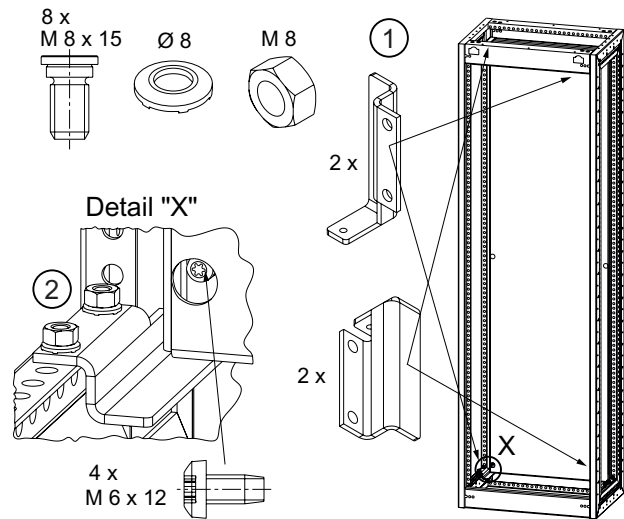

Fig. 9
- 1 Mount the 4 mounting angles to the frame with M 8x15 threaded bolts, 8 contact washers and M 8 nuts. See Figure 9.